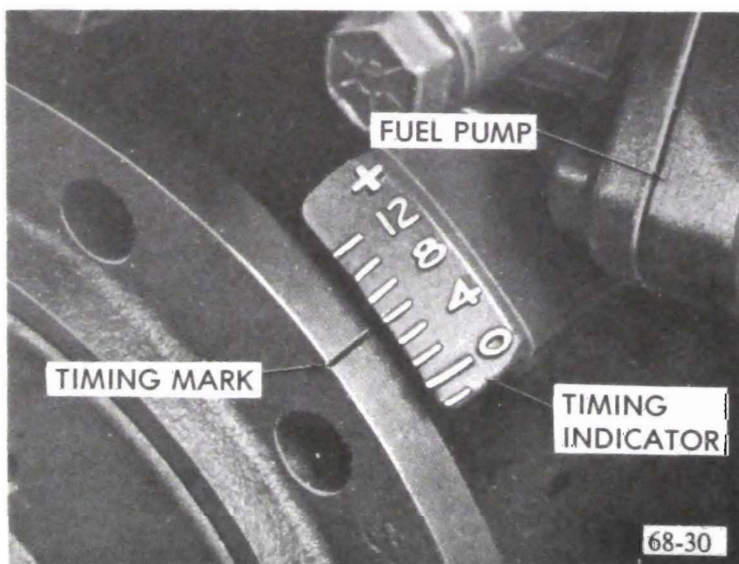

Figure 68-27 - Ignition Timing Mark and Indicator
The timing mark is a groove filled with yellow paint, which is in the edge of the harmonic balancer. The timing indicator, a part of the timing chain cover, has ridges outlined with yellow paint. See Figure 68-27.
1. With No. 1 spark plug removed and with hole plugged, rotate crankshaft in a forward direction using a suitable wrench on the harmonic balancer to crankshaft bolt. When plug blows from No. 1 cylinder, continue rotation until timing mark on balancer is aligned with proper mark on timing indicator. See Figure 68-27. No. 1 cylinder is now in position to fire.